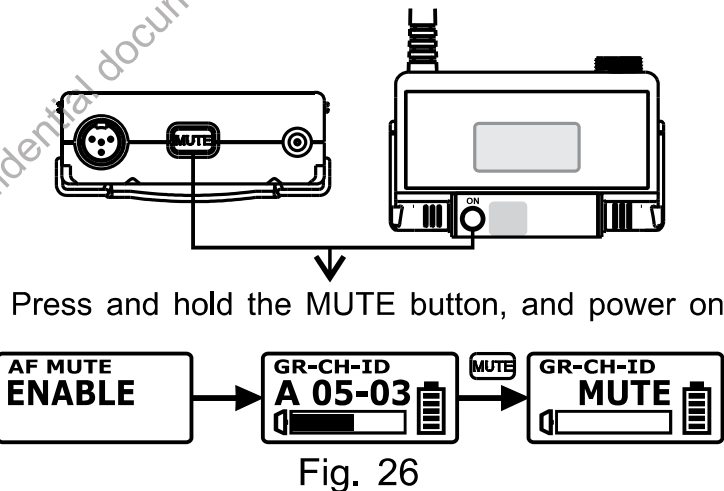

Fig. 26
- (4) Disable Lock: Power off. Press and hold the MUTE button, and power on to enable the MUTE button. LCD shows ENABLE. Fig. 26